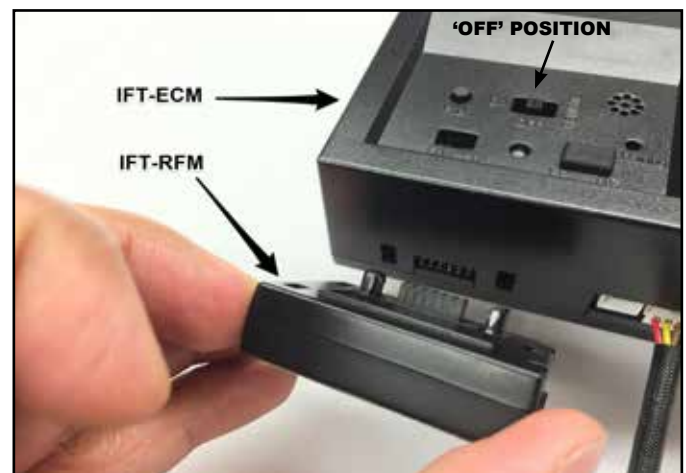

Figure 1. Connect IFT-RFM to IFT-ECM
2. Locate the IntelliFire™ Touch electronic control module (IFT-ECM) in the control cavity of the appliance and move the three-position switch to the OFF position. See Figure 1.
3. Connect the IFT-RFM to the IFT-ECM by aligning the pins and tabs and pushing the IFT-RFM into the IFT-ECM until both tabs latch into position. Ensure the two components are fastened securely to one another. See Figure 1.